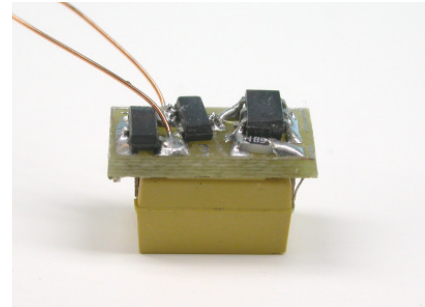

figure 1: The component jitter-free backlights
2. The product can be seen in figure 1. These instructions are part of the product. Please retain them well.